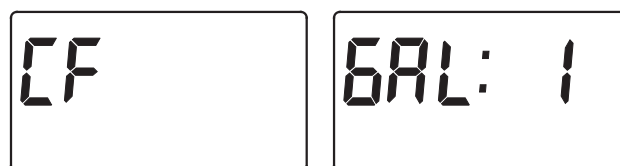

FIG. 29
4. **CHEMICAL FEEDER TRIP VOLUME:** If you have set the auxiliary output control to CF (Chemical Feeder), you will need to set the volume of water which must flow past the turbine* before the auxiliary output is turned on. With the alternating screens in Fig. 29 shown, use the \triangle UP or ∇ DOWN buttons to set the trip volume, in gallons. Then press the SELECT button to display the screen shown in Fig. 30.